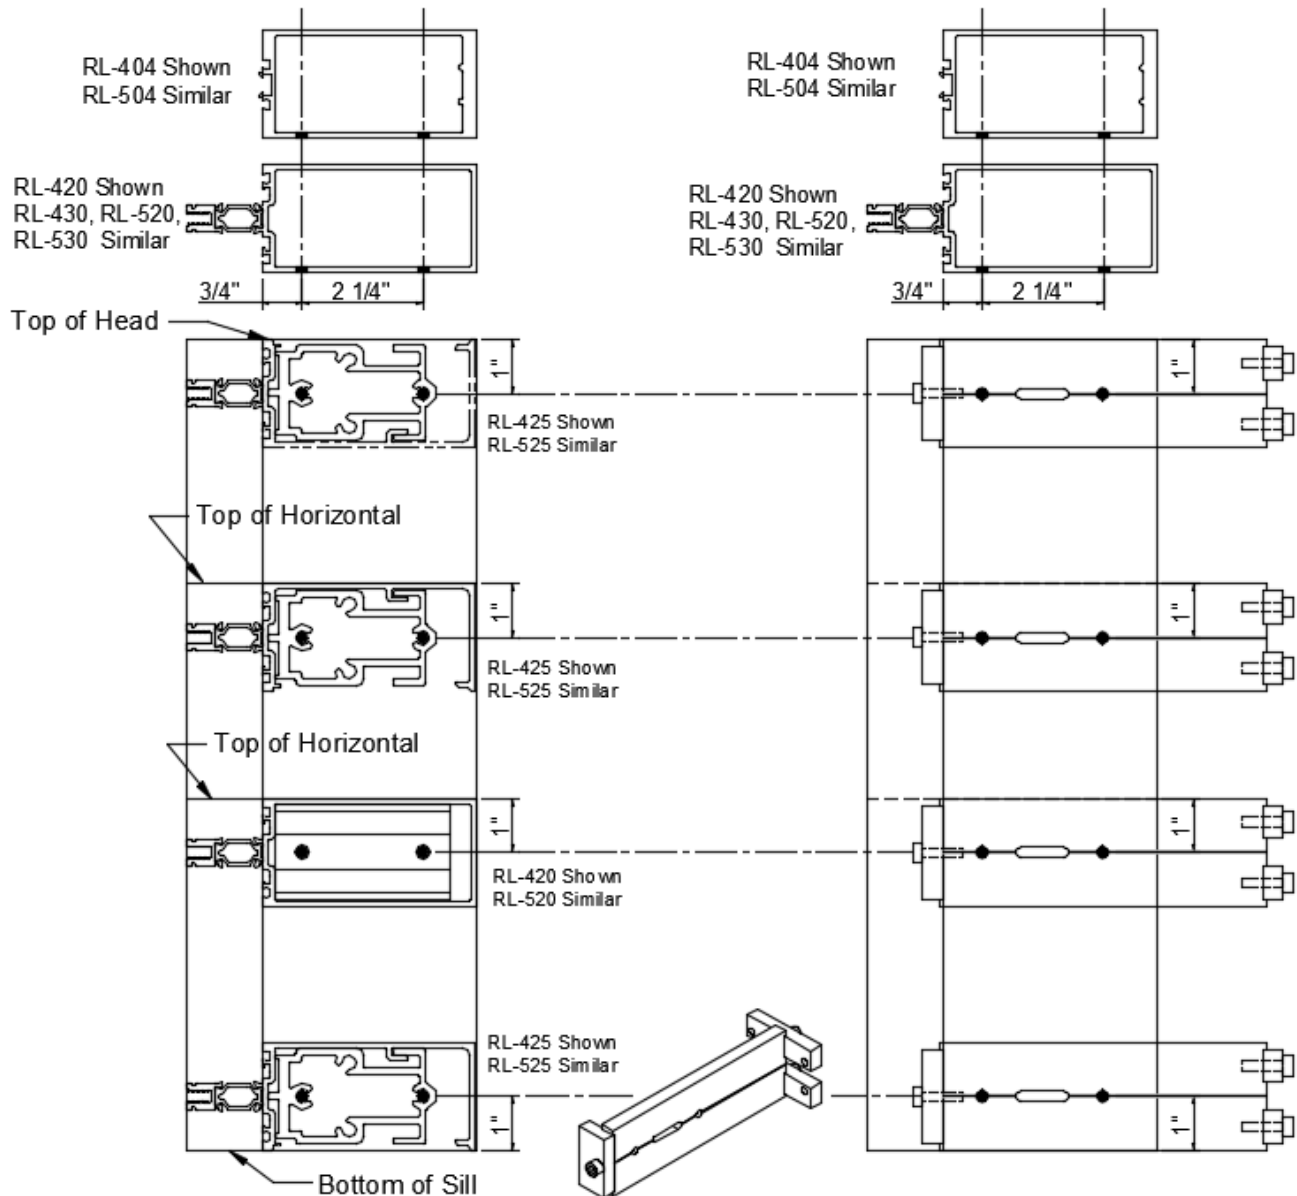

Figure 6: Vertical Mullion Fabrication
- 5.1 Fabricate vertical mullions for horizontal members, using **DJ-117** Drill Jig. Drill holes for shear block using holes marked "A" and "B". See *Figure 6*. When working off horizontal centerlines, use the slot milled into the drill jig to align the jig with the centerline.